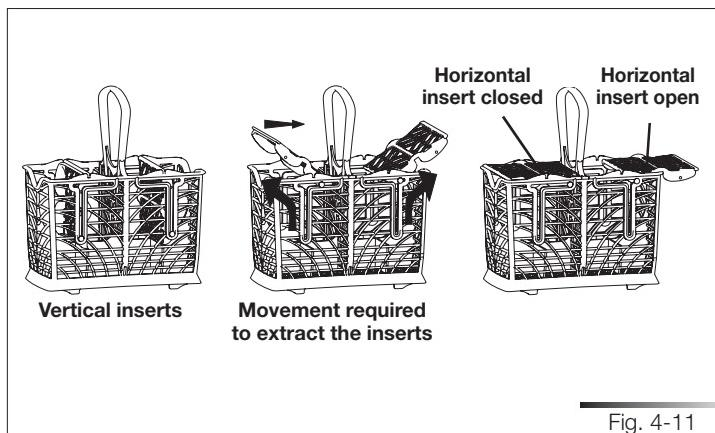

Fig. 4-11
4.4.2 Cutlery basket (see fig. 4-11/4-12 depending on models)